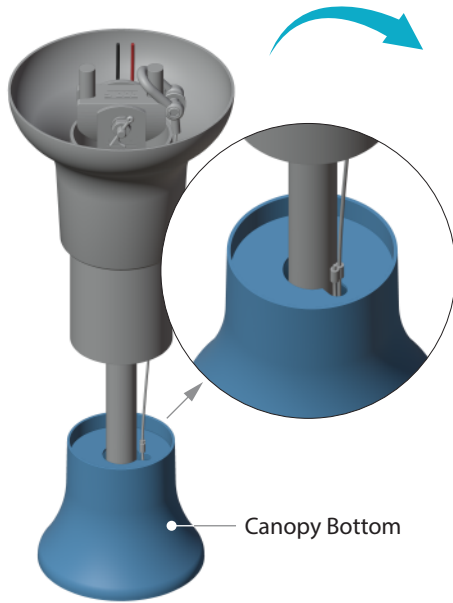

fig. 10.1
- Pass the safety wire and supply wire through the hole provided in the canopy bottom and align the **safety wire** and supply wire along the **slot provided** along the hole in the canopy bottom. (fig.10.1)